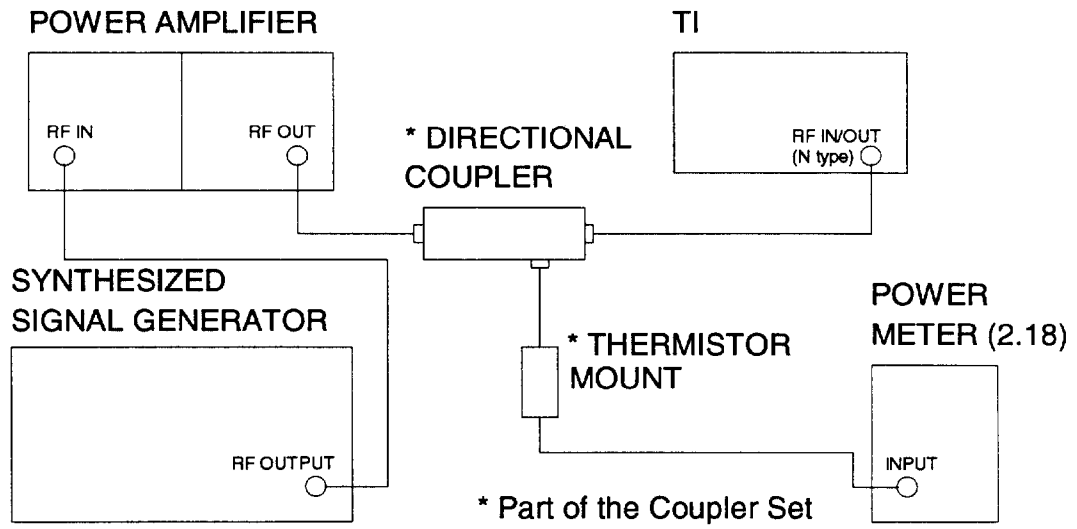

Figure 1.
4.6.12 Connect equipment as shown in Figure 1.